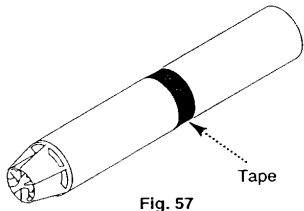

Fig. 57
7. Take the flue terminal assembly and pass through the cut hole from outside. Engage on the flue and air ducts. Slide the flues together to the desired wall thickness. Tape the sections together with the tape provided ensuring a good seal is made (Fig. 57).